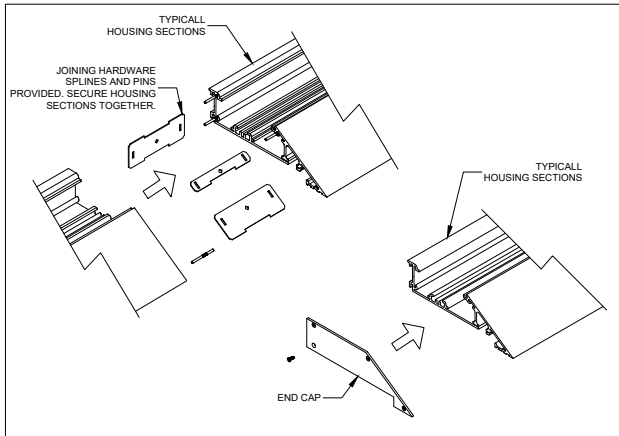

Figure 3. Housing joining hardware & end cap.
4. With all housing sections in place, secured and joined together, install end caps on both ends of the row, see figure 3 for more detail. If you have a closed pattern, end caps are not needed. add a skim coat on the bottom and on the top of the housing where it meets the blocking. The housing sections can be painted to match the ceiling. Finish al painting required before installing the led trays.